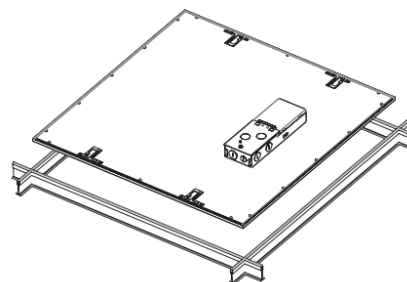

Figure 3
5. Pass fixture through the grid at a 45-degree angle and lay fixture onto the grid (Fig.3)